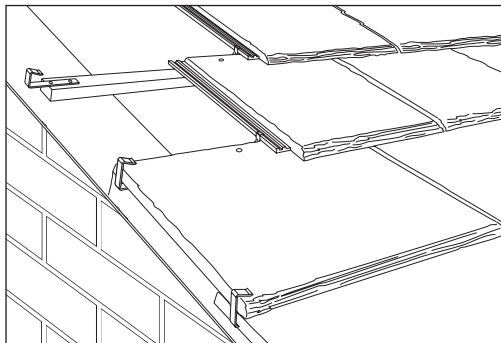

Fig 91 – Twice-nailed verge clips
- Verge clips should be twice nailed to battens with upstand level with edge of undercloak (Fig 91).